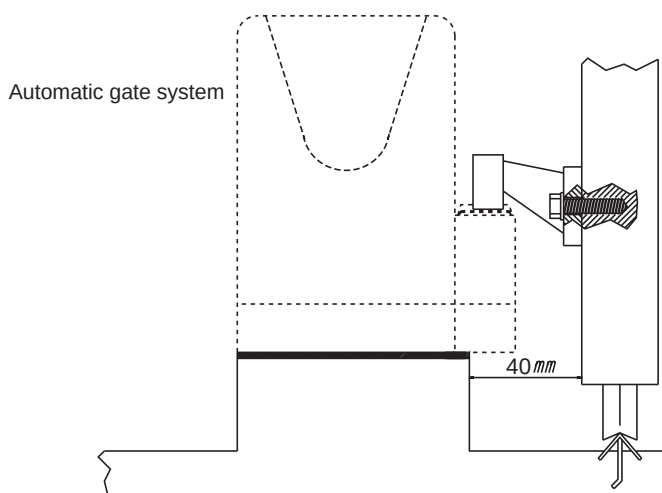

Fig. 3
Before securing the actuator, check the distance between the gate and the pinion (see figure 3).
N.B.: The backplate must be wallied up or secured by carefully following the measurements shown in Fig. 3 to ensure correct meshing between the pinion of the gear motor and the rack.
- Position the gear motor observing the measurements shown in Fig. 3. Place the gear motor on the backplate so that the bolts, M8x30, enter the two mounting holes in the casting and tighten the nuts preceded by a flat washer and a toothed washer, see Fig. 4B item E.